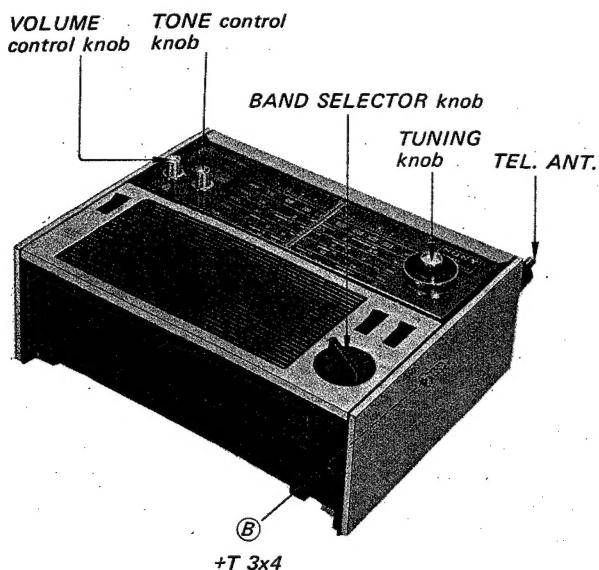

Fig. 2-2 Chassis removal, steps 1 and 2
1. Pull out the four knobs, VOLUME, TONE, TUNING and BAND SELECTOR. (See Fig. 2-2.)
2. Remove a screw labeled **(B)** in Fig. 2-2.